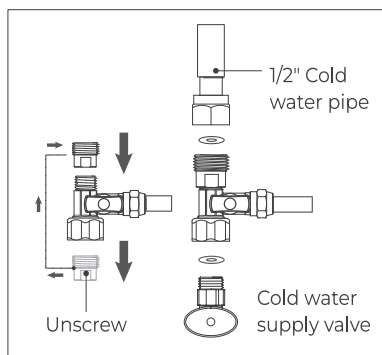

Figure 6
**NOTE: If the cold water pipe is 1/2", unscrew the converter from the feed water adapter (Figure 6), and then implement step c.**